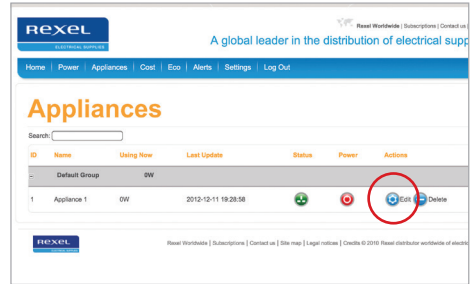

fig.11
3. In the list you will see the appliance sensor listed as 'Appliance 1', click on Edit (fig.11).